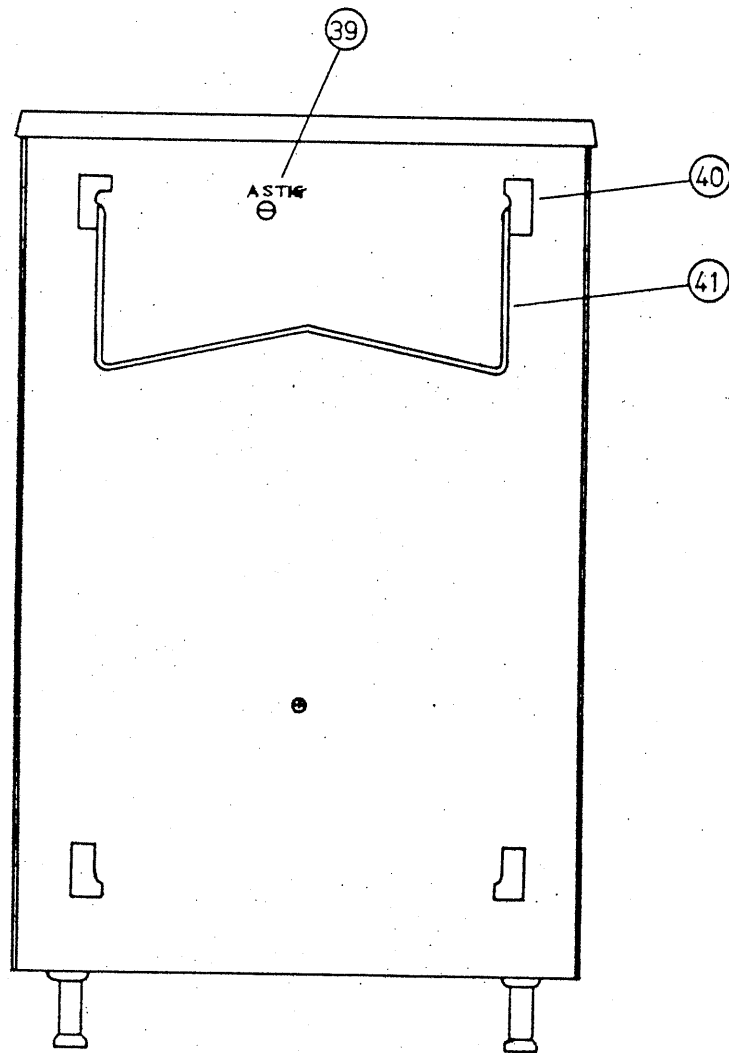

Fig. 3
3.3 Explanation of Bottom Panel (See Fig. 3)